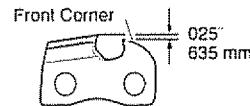

Figure 25 - Round Off Front Corner Of Depth Gauge
- 3 Remove depth gauge tool. With flat file, round off front corner of cutter depth gauge (see Figure 25)